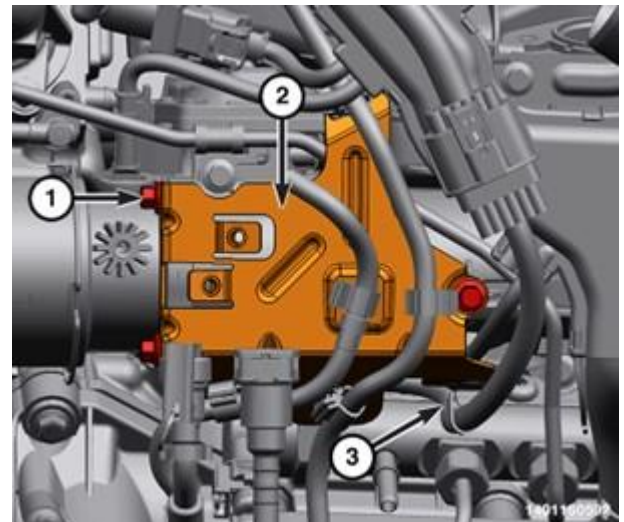

Figure 69 – Harness Retainer
- 120. Install the fuel line support bracket (2) and tighten the bolts (1) to 11 N·m (8 ft. lbs.) (Figure 69).